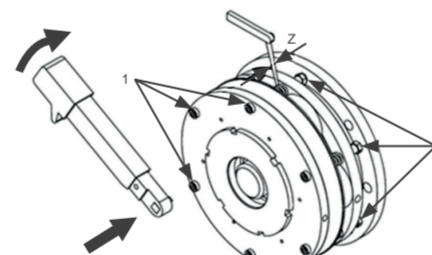

Figure 5.5: Checking the air gap of the brake sizes 25 and 31
3. When the air gap adjustment is correct, tighten the fixing bolts 1 (Figure 5.5) according to the tightening torque specified in (Table 5.2).